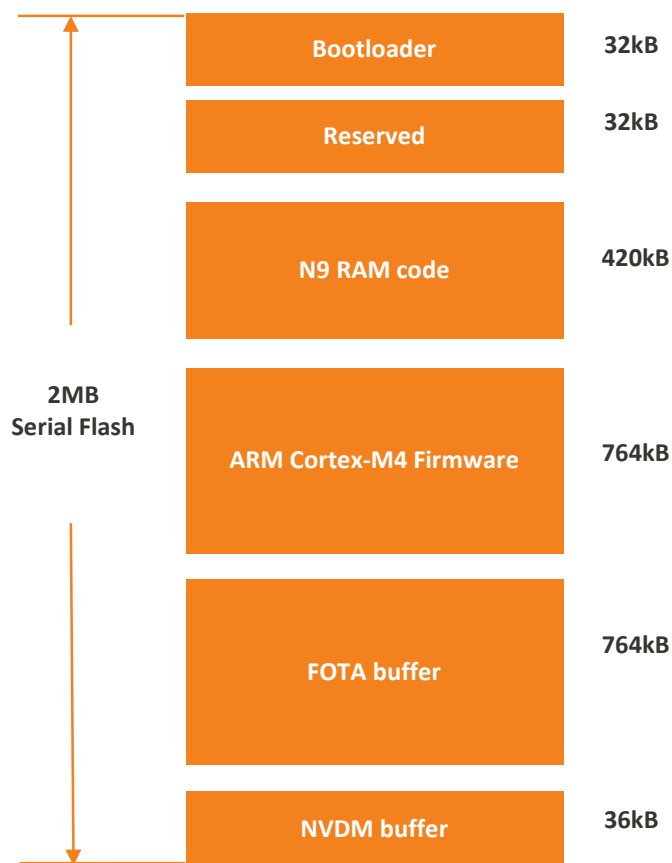

Figure 1. The load view of the 2MB flash memory layout
MT7687F has 2MB internal serial flash memory. The load view on the flash memory of the HDK is shown in Figure 1.
- **Non-Volatile Data Management (NVDM) buffer.** There are two blocks reserved for the NVDM buffer management. The first NVDM buffer after the Bootloader (see Figure 1) is not configurable, but the second NVDM buffer is configurable, see section 2.4, “Memory layout adjustment with a linker script” for more details.
configurable, no need to modify. The second NVDM buffer starting address and size are configurable (see Figure 1).